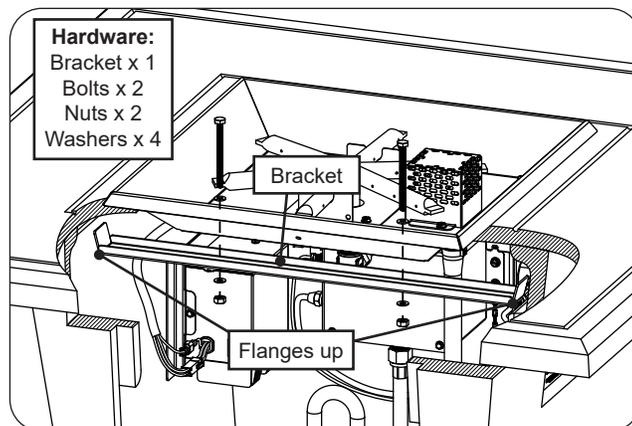

Fig. 35-4 Install bracket
7. Locate the supplied support bracket and install as shown in Fig. 35-4. The bracket must be inserted into the enclosure through the door opening, aligned with the holes found on the burner pan, and fastened with a $\frac{1}{2}$ " wrench and the supplied bolts (2), nuts (2), and washers (4).